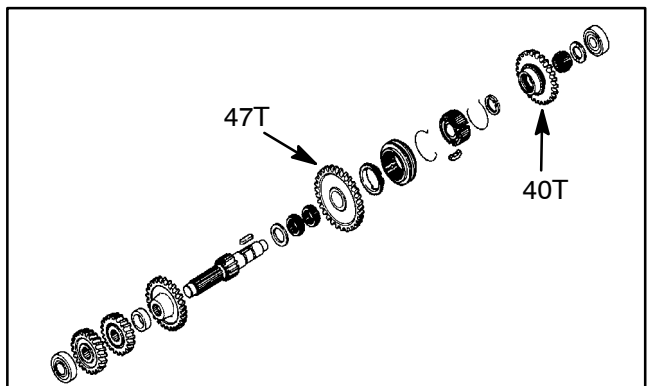

Figure 56
- D. Inspect I.D. of synchro gears on reduction shaft for excessive wear or scoring (Fig. 56). If synchro gear has the following I.D., replace the synchro gear: